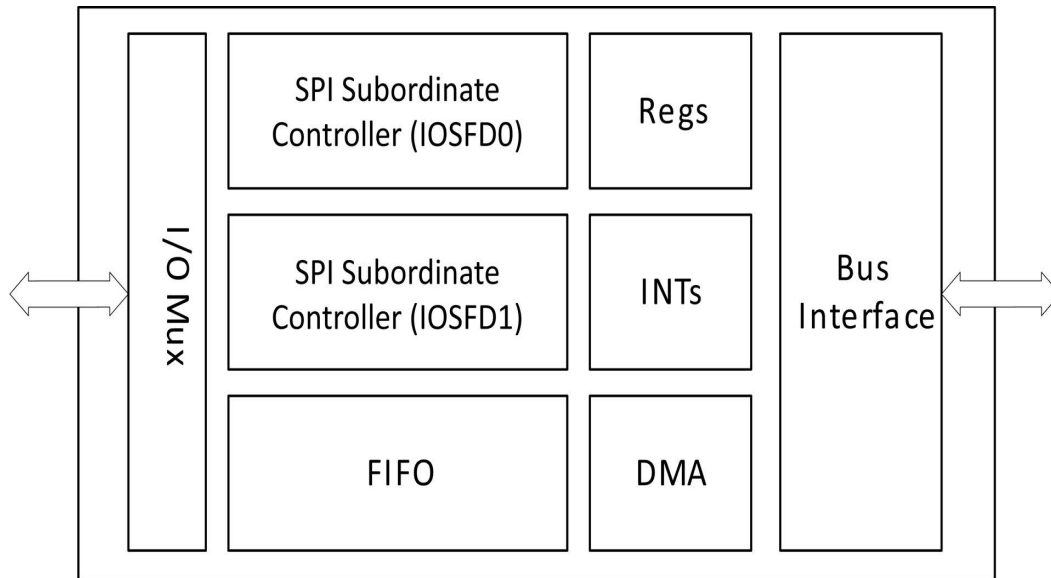

Figure 33. Full Duplex IOS SPI Subordinate Controller Pair (IOSFD0 / IOSFD1)
The Apollo510 SoC includes two instances of the Full DuplexSPI Subordinate and both instances are designed to work in tandem to enable full duplex (FD) operation. Features of the controller pair are shown in Figure 33 and listed below.